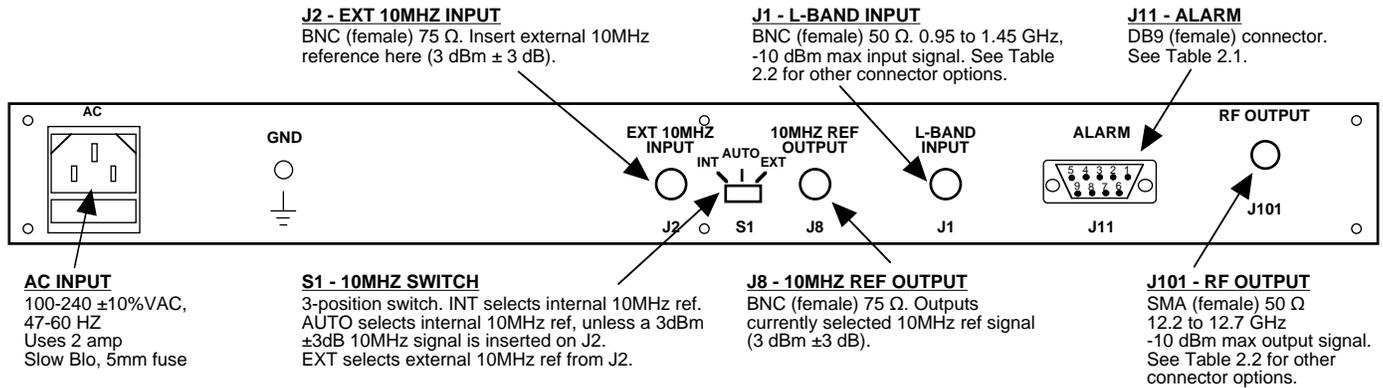

FIGURE 2.1 2115-109 Rear Panel I/O's
2.2 Rear Panel Input/Output Signals - Figure 2.1 shows the input and output connectors on the rear panel.
1. Connect a -40 dBm to -25 dBm signal to L-BAND INPUT, J1 (Figure 2.1).
6. Select either INT (for internal 10MHz ref), AUTO (for internal 10MHz ref UNLESS a external 10MHz, +3 dBm signal is connected to J2), or EXT (for external 10MHz, +3 dBm ref that is inserted at J2) on rear panel switch S1 (Figure 2.1).
8. Check that a 10MHz, +3 dBm \pm 3 dB signal is present at the 10MHZ REF OUTPUT (J8) (Figure 2.1).